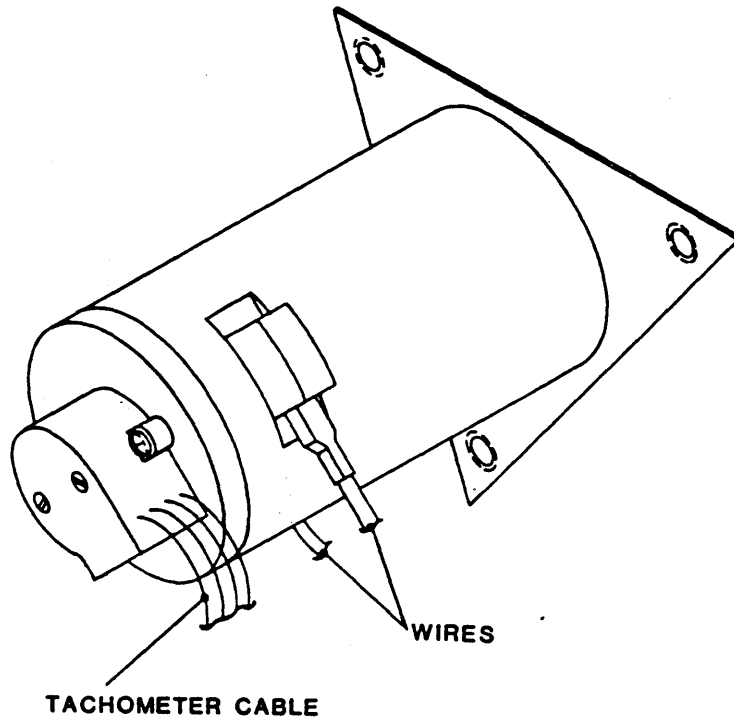

Figure 4-20 Capstan Motor Assembly
**4.3.24 CAPSTAN MOTOR ASSEMBLY (Figure 4-20)**